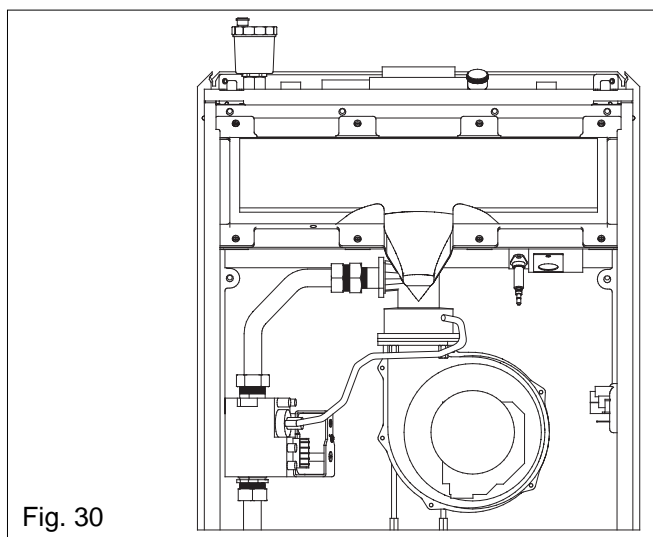

Fig. 30
6.19 COMBUSTION COVER (see fig. 30)